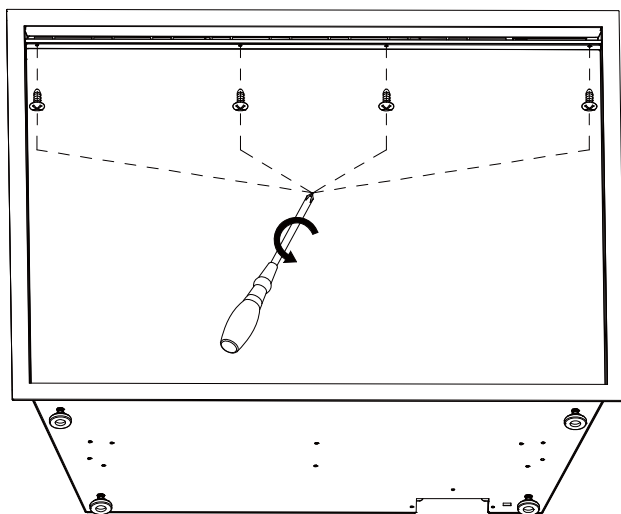

Figure. 2-1
- ① Support the front glass with one hand to prevent it from falling. Remove the four (4) screws from the top of the glass and set them aside (Fig. 2-1).